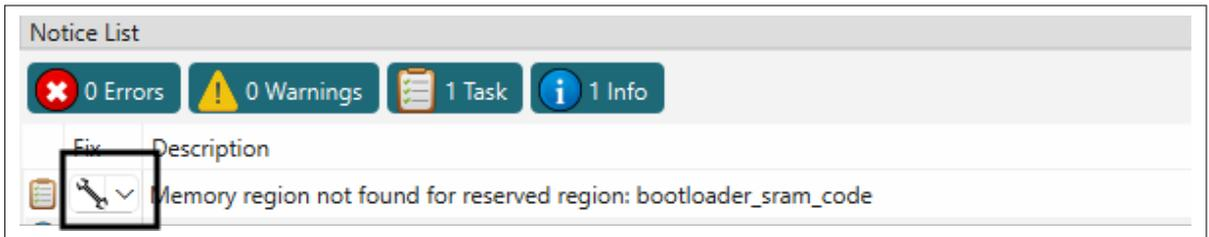

Figure 46 Add bootloader_sram_code region
3. Add region in SRAM memory for bootloader image by clicking on fix as shown in Figure 46